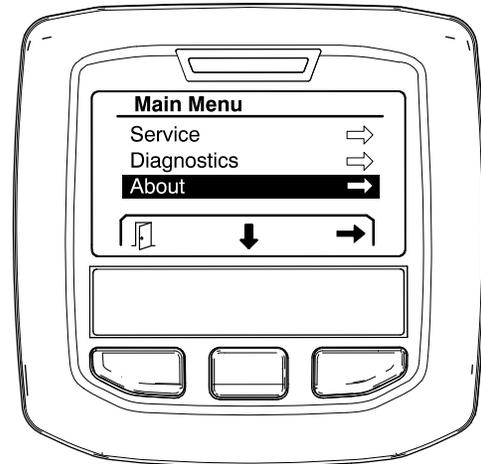

Figure 36
- To access the about screen, use the middle button to navigate to the ABOUT option, then press the right button to enter into the About screen (Figure 36).